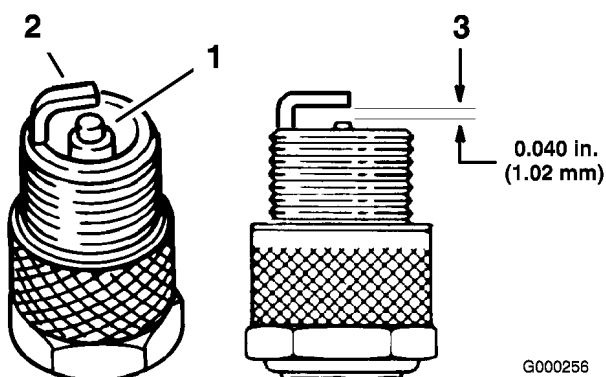

Figure 25
1. Look at the center of the spark plug(s) (Figure 25). If you see light brown or gray on the insulator, the engine is operating properly. A black coating on the insulator usually means the air cleaner is dirty.
2. Check the gap between the center and side electrodes (Figure 25). Bend the side electrode if the gap is not correct.